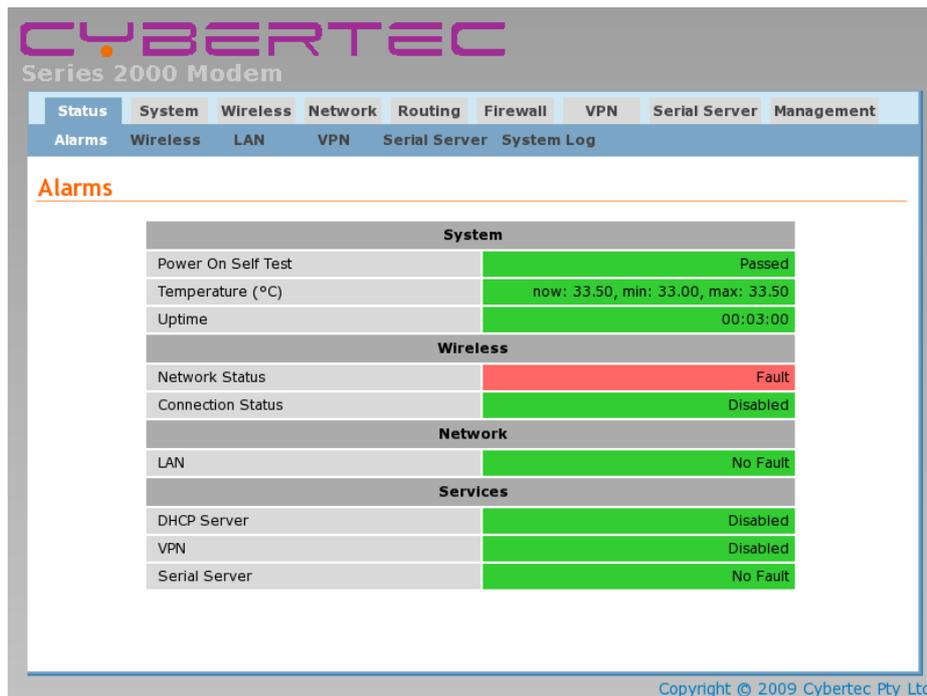

Figure 21: Status summary
- The Status summary page will be displayed, it will be similar to Figure 21.